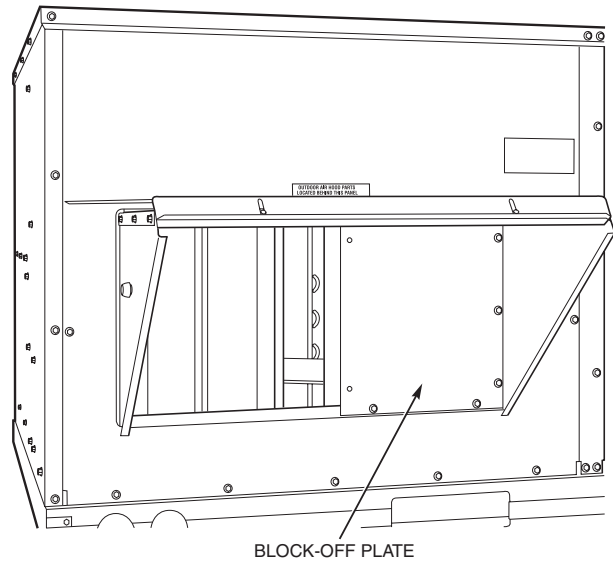

Fig. 27 — Horizontal Discharge Block-Off Plate
- c. Install horizontal discharge block-off plate over the opening on the access panel. (Block-off plate **MUST** be installed before installing hood assembly.) See Fig. 27.